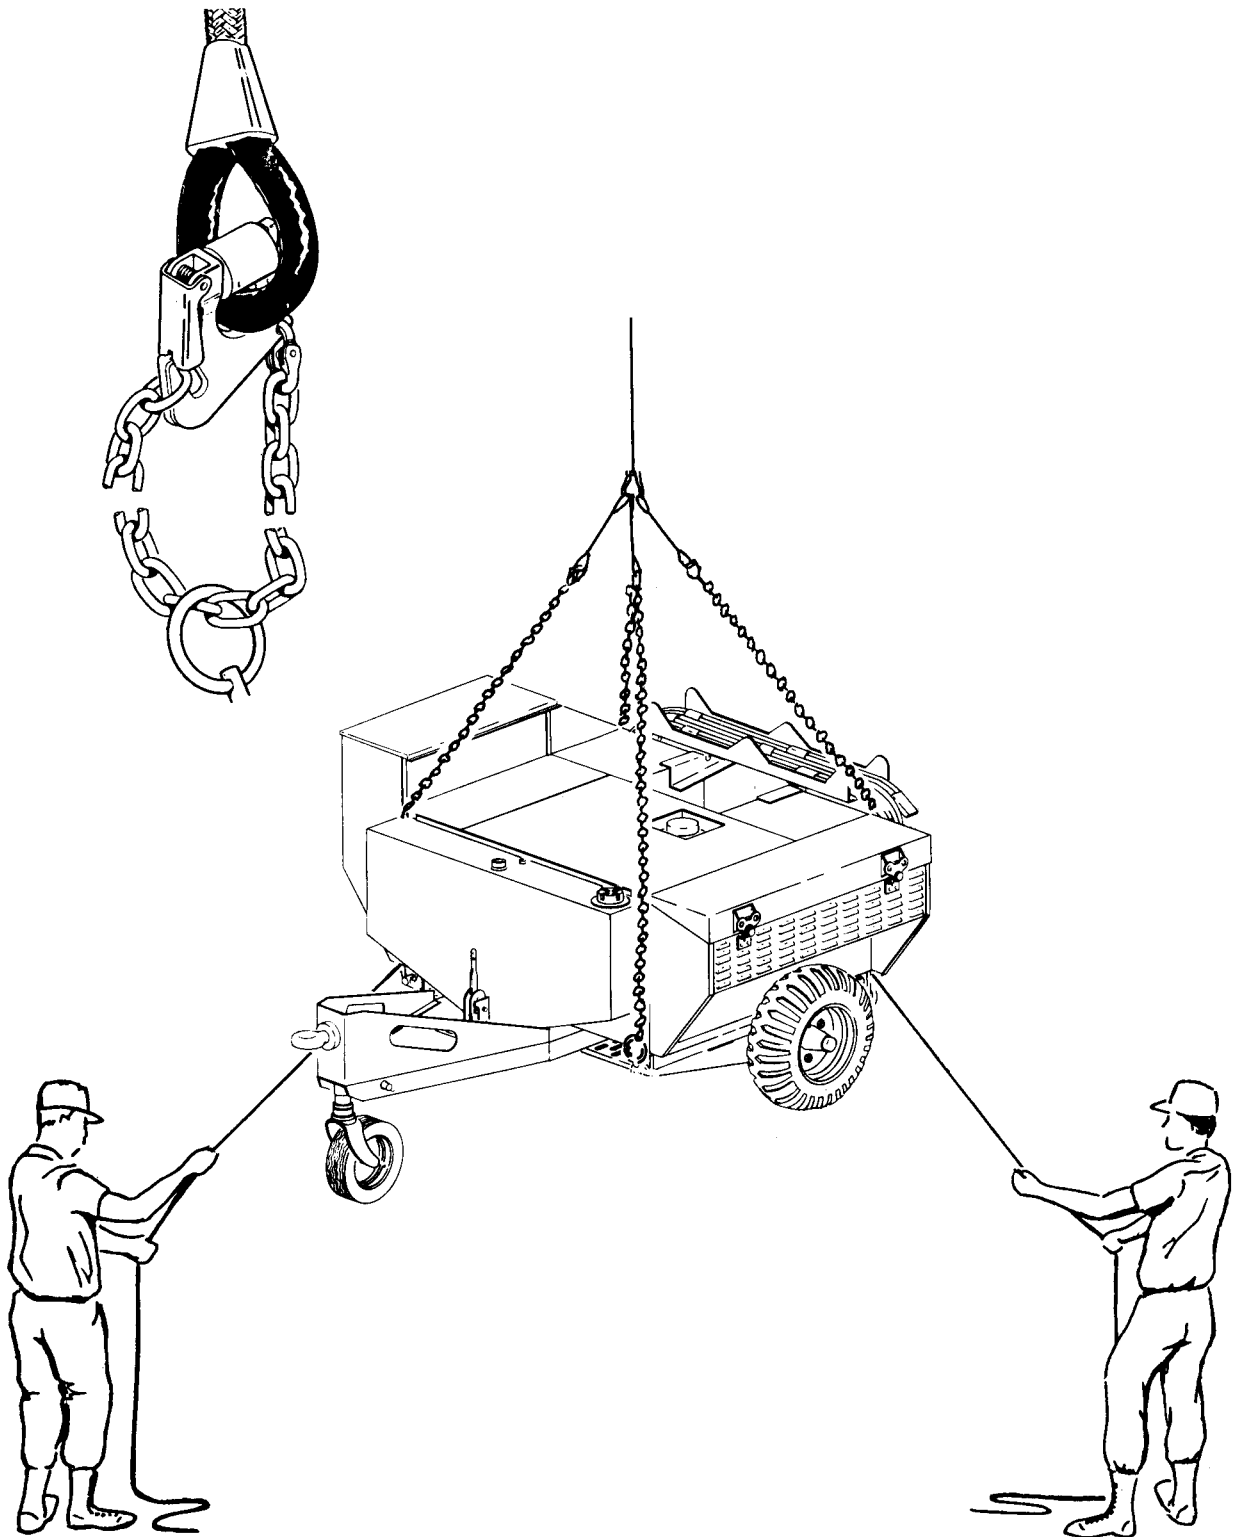

Figure 4-5. Cable/Sling Hookup for Moving Generator Set
(1) Inspect tiedown rings.
(2) Attach appropriate cables and shackles to tiedown rings (figure 4-5). Lift point shall be centered above the generator set.
(3) Attach cables and shackles to hoisting device. Using hoisting device, slowly take a strain on cables. If necessary, place padding between cables and generator set housing to prevent damage.